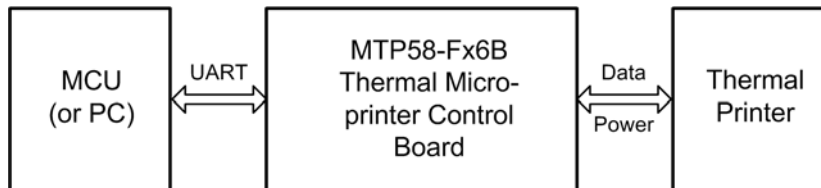

Figure 1-1: How to use MTP58-Fx6B
Figure 1-1 demonstrates how to use the MTP58-Fx6B series Micro-thermal printer control board:
- MTP58-Fx6B drives the Micro-thermal Printer head for printing by controlling the control line and the power line, as Figure 1-1 shows.